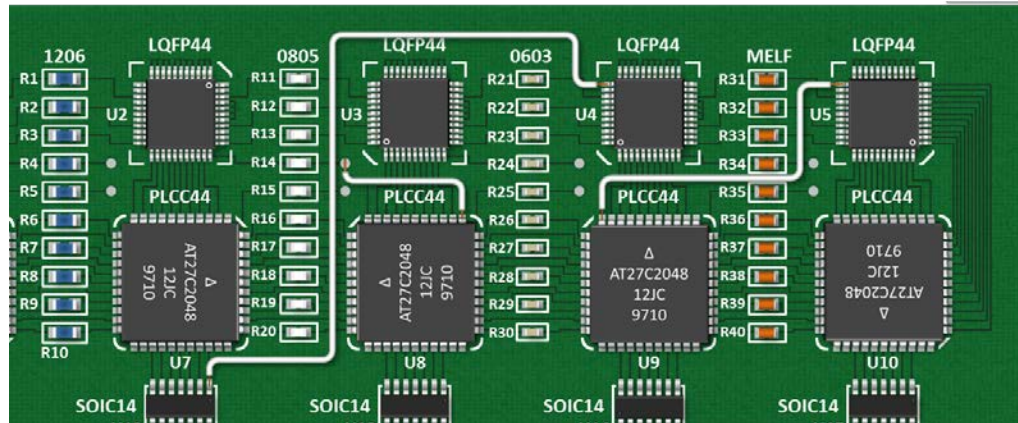

Figure 19-1 Jumper Wire Routing
- The jumper wire shall be routed along the X-Axis and/or the Y-Axis, as directly as feasible, making as few bends as possible (Figure 19-1)